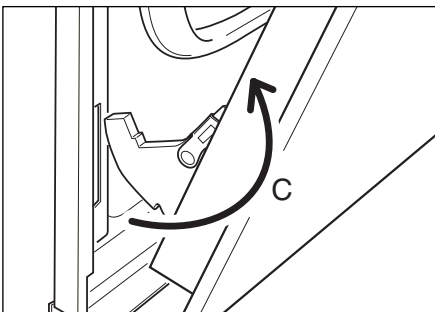

Fig.57e
- Withdraw the hinge hooks from their location following arrow "C" (Fig. 57e).